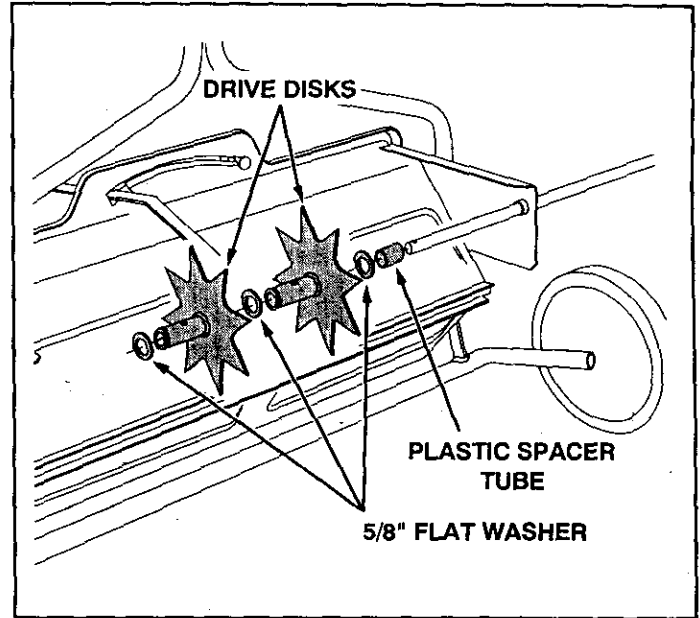

FIGURE 14
- Place a plastic spacer tube, a 5/8" flat washer, a drive disk, a 5/8" flat washer, another drive disk and a third 5/8" flat washer onto the shaft. Fit the plastic spacer tube onto the flanged bearing in the end plate. See figure 14.